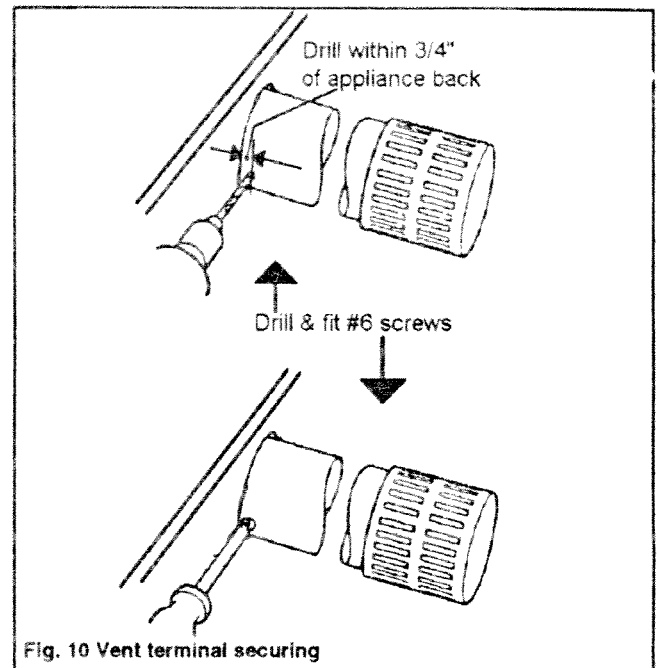

Fig. 10 Vent terminal securing
- 10.3 Drill through the vent terminal outer tube and the appliance outer collar at each side and within 3/4" of the appliance back face to take #6 tapping screws. **Make sure that the drill does not penetrate the inner vent tube and inner collar** (see figure 10).
- 10.4 Secure the vent terminal to the appliance collars with the two #6 screws supplied (see figure 10).